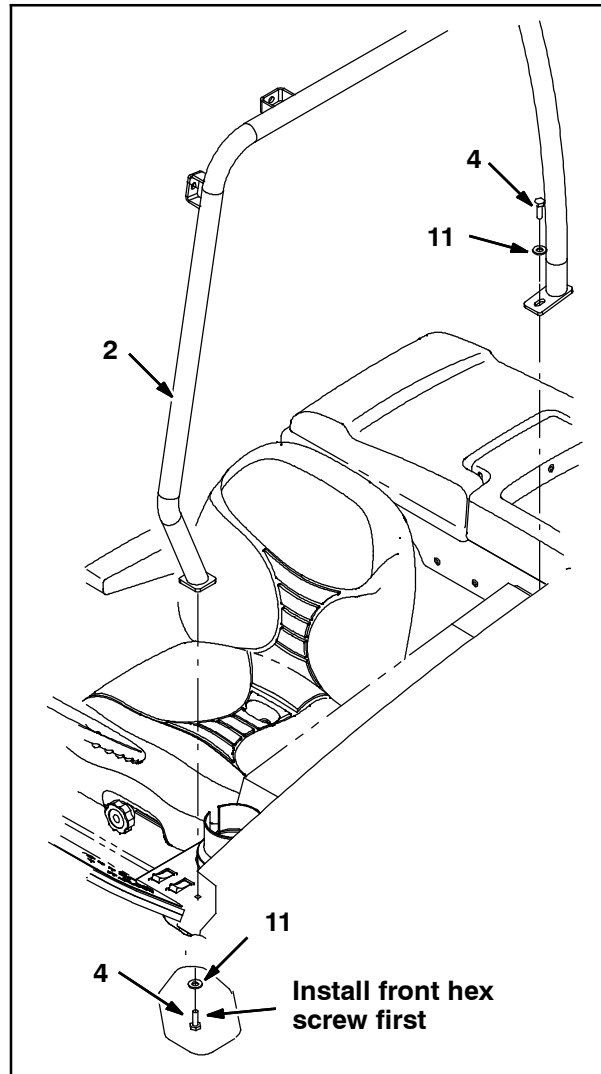
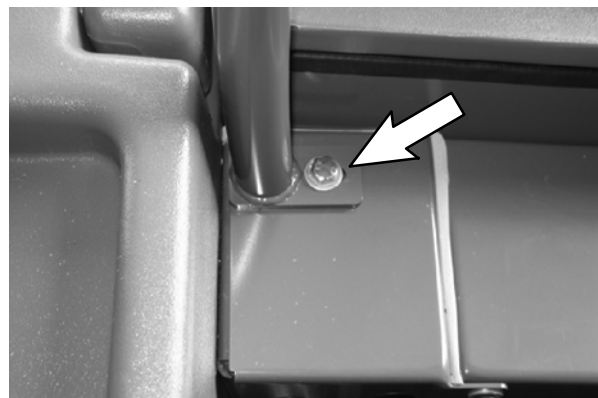

FIG. 4
FIG. 5
5. Use two hex screws (4) and two flat washers (12) to install the left overhead guard tube (2) onto the machine. Reinstall the spray wand bracket over the foot on the left overhead guard tube if the bracket was removed in the previous step. Do not completely tighten the hex screws since it may be necessary to move the left tube when installing the rest of the kit. (Fig. 4 / Fig. 5)